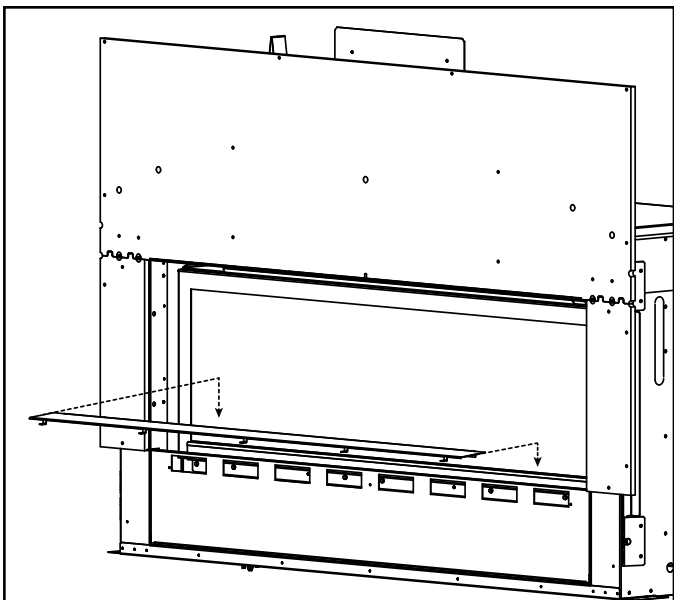

Figure 8. Install Bottom Glass Shield
14. Install bottom glass shield between glass and glass frame. See Figure 8.